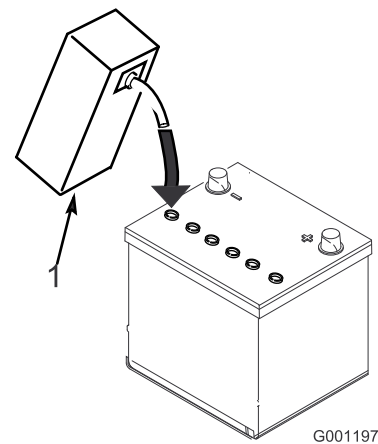

Figure 22
2. Carefully fill each cell with electrolyte until the plates are covered with about 6 mm (1/4 inch) of fluid (Figure 22).
3. Allow approximately 20 to 30 minutes for the electrolyte to soak into the plates. Refill as necessary to bring the electrolyte to within about 6 mm (1/4 inch) of the bottom of the fill well (Figure 22).